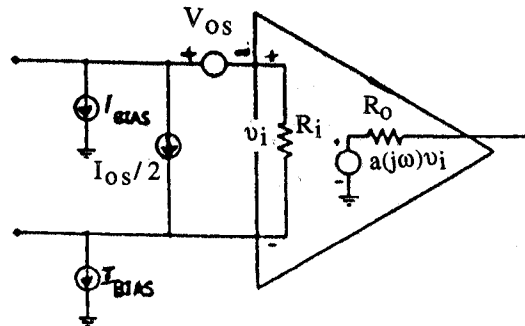
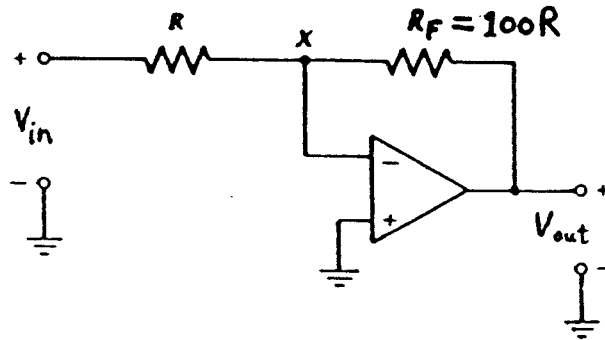
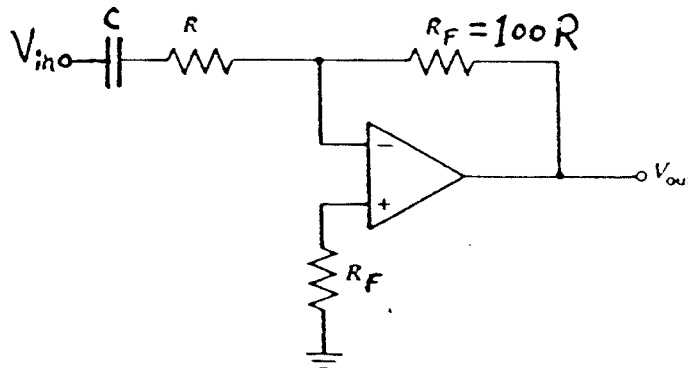

Figure 2. Equivalent circuit for the non-ideal op amp.
Figure 6. A basic op amp gain circuit
Figure 7. Op amp gain stage with D.C. error nulling
Since differential amplifiers form the input stages of operational amplifiers, mismatch effects such as V_{OS} and I_{OS} (see lab 4) also apply to the 741 op amp. An equivalent circuit for the operational amplifier including these non-ideal D.C. effects is shown in Figure 2.
V_{OS} , I_{OS} , and I_{BIAS} (see figure 2) will cause D.C. errors in op amp circuits. For example, the circuit in Figure 6 will give a gain $|v_{out}/v_{in}|=100$, but will also amplify V_{OS} by 101 (show that this is true).
These D.C. offset errors can be minimized in many ways. For example, the multiplication of V_{OS} can be eliminated by A.C. coupling the input, and the effect of I_{BIAS} can be minimized in Figure 6 by placing a resistor in series with the non-inverting input terminal (see figure 7).
- 1) Build the amplifier circuit shown in Figure 6 (with $R=1\text{ k}\Omega$). Measure V_{OUT} with $V_{IN}=0$ volt. This V_{OUT} is produced by the D.C. sources shown in Figure 2. Now add C and another resistor of value R_F as shown in Figure 7 (with $R=1\text{ k}\Omega$ and $C=0.047\text{ }\mu\text{F}$). Again, measure V_{OUT} with $V_{IN}=0$ volt. How has the D.C. output changed? Why?
- 2) For the circuit in Figure 7, compute and select R so that the midband A.C. input resistance is larger than $4\text{ k}\Omega$. Calculate and select capacitor value C so that the circuit will amplify signals above 400 Hz with gain $= 40\text{dB} \pm 3\text{dB}$ (a midband gain of 100). (Hint: use virtual ground approximation). Build your circuit using standard resistor and capacitor values. Measure and plot the A.C. gain $v_{\text{out}}/v_{\text{in}}$ (in dB) vs. log frequency for your circuit from $f=10\text{Hz}$ to 1MHz . How do the low and high -3dB corner frequencies agree with expected values?
- 3) Output Swing. For the circuit shown in Figure 7, with an input of 1 kHz , increase the amplitude of V_{in} until output V_{out} clips. What are the positive and negative clipping limits? Compare measured values with data sheets values.